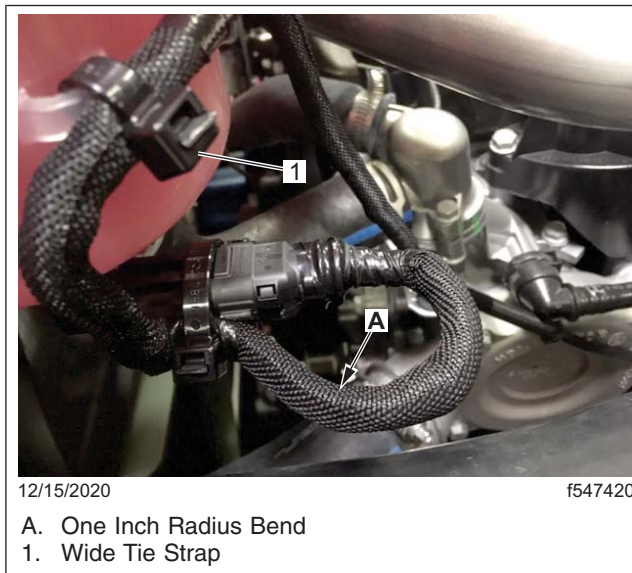

Fig. 7, Maintaining the Bend Radius
9. Route the harness as shown in Fig. 7 using one of the mounting locations on the surge tank and secure it at the clipping points using wide tie straps. Maintain a minimum of one inch radius bend at the point where the harness enters the low coolant sensor connector.